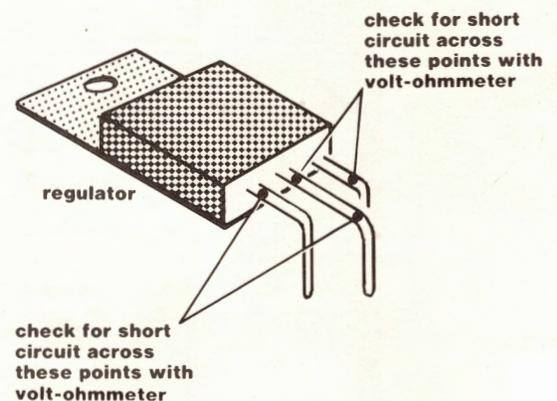

Figure 10.
5. Before proceeding, check your work so far by testing the board for any shorts between supply lines and ground. Referring to Figure 10, use a voltmeter to test for a shorted condition at the test points indicated on the regulator.